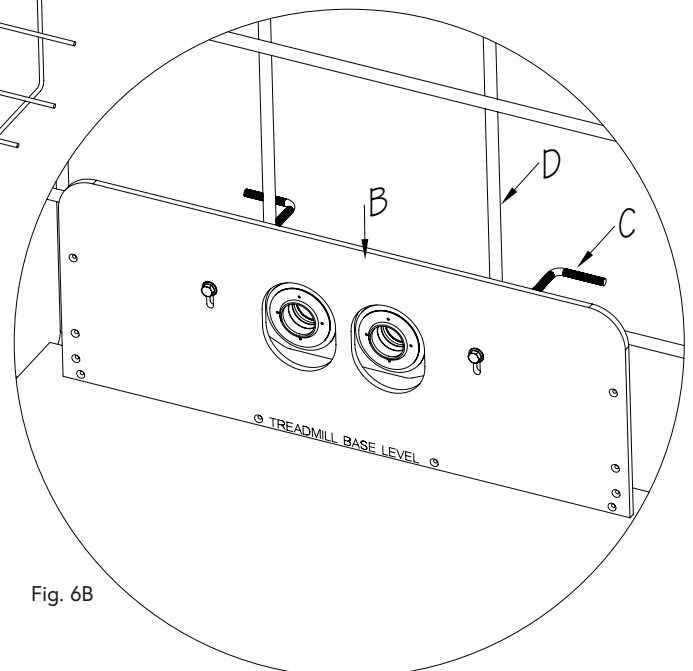

Fig. 6B
Position the base of the Mounting Template (B) onto the finished floor so that the back surface of the template is flush with the expected finished pool wall. Concrete will be poured to the back of the template and then the template will be removed so that the front of the mounting bracket is flush with the finished pool wall. Once in position, secure the Threaded Rods (C) to the Rebar Grid (D) using rebar ties (Fig. 6B). **Refer to the detail drawing on the following page to supplement these instructions.**